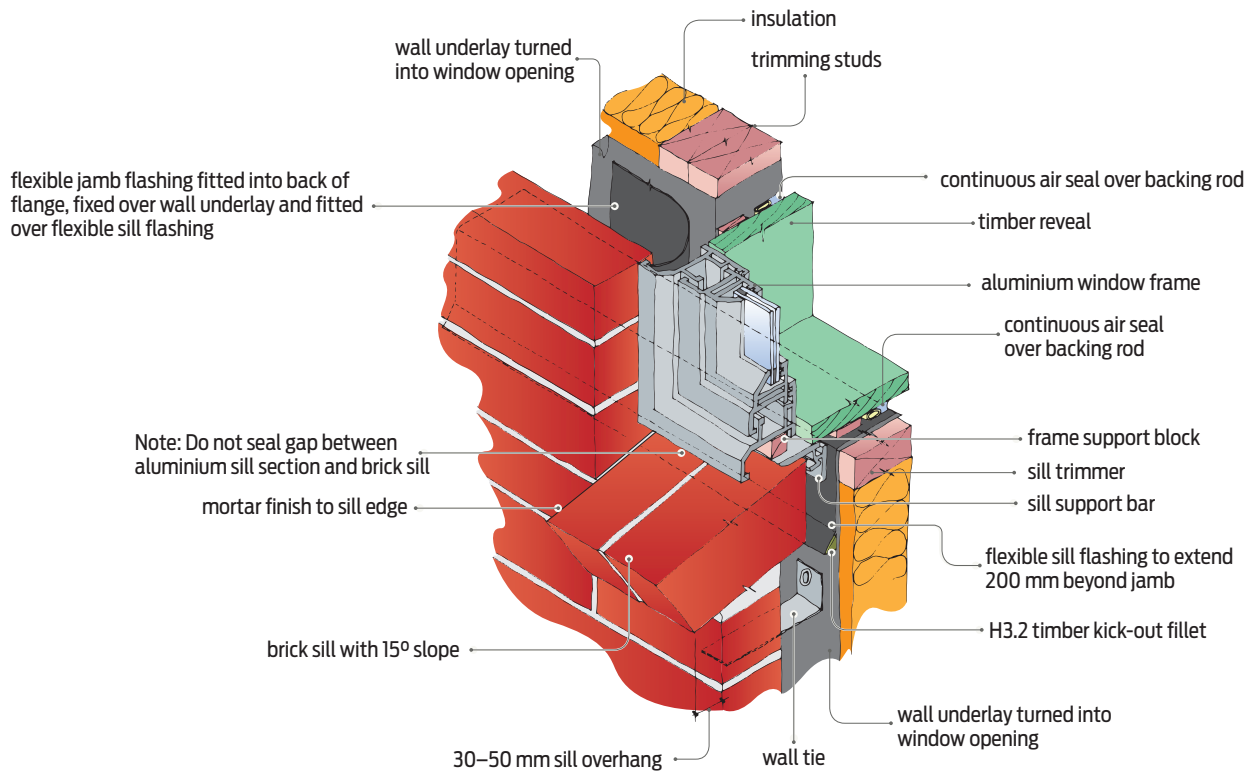

Figure 4 Aluminium window installation – jamb and sill detail.
be extended 200 mm beyond the jamb line on both sides (see Figures 4 and 5).
moisture is directed to the outside face of the cladding (see Figures 4 and 5).
- aluminium window sills must have a sill support bar where the window is wider than 600 mm (see Figure 4)